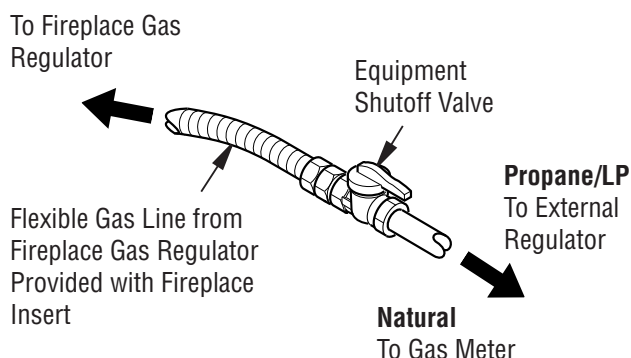

Figure 16 - Attaching Flexible Gas Lines Together
NOTICE: Most building codes do not permit concealed gas connections. A flexible gas line is provided to allow accessibility from the fireplace (see **Figure 16**). The flexible gas supply line connection to the equipment shutoff valve should be accessible.
4. Connect gas supply line to flexible gas line attached to gas regulator of fireplace insert (see **Figure 16**). Use sealant on all male pipe threads.